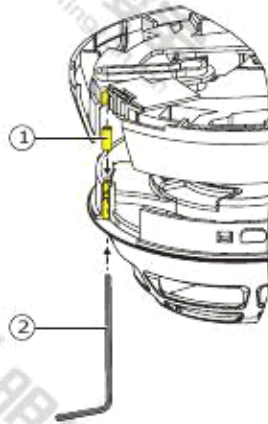

Fig. 6
- **Detector locking device LP720 (Fig. 6)**